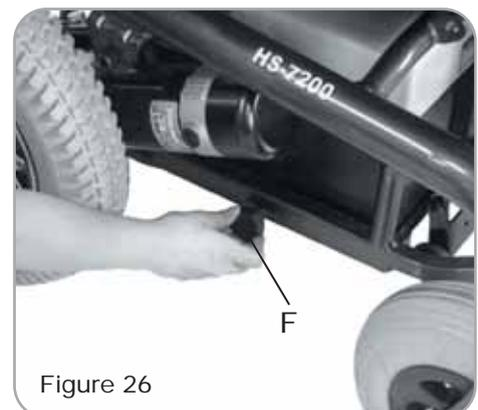

Figure 26
1. Turn the free wheel levers outward or inward to engage the drive motors. (See Fig. 26)